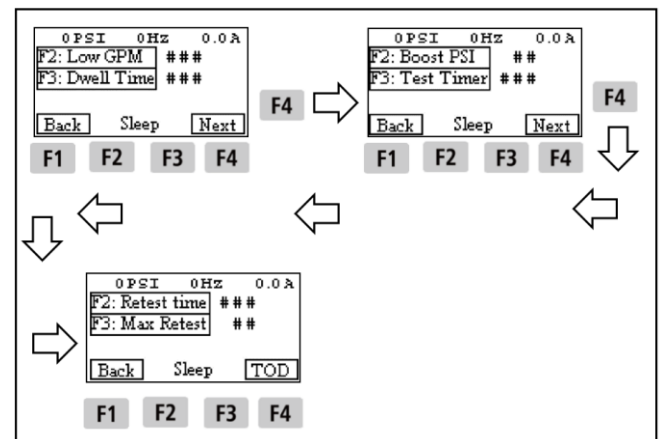

Figure 12-19. Adjusting Sleep Parameters.
- The Low GPM setting is the minimum flow at which the VFD will perform a sleep test. To adjust the Low GPM setting, from the first Sleep configuration settings screen, press the **F2** Low GPM key (see Figure 12-19). The number to the right of F2 Low GPM can be used for the Flow Switch. For a Flow Switch, set the number at 1.
- The Dwell Time is the time allotted at the Low GPM flow before the VFD performs a sleep test (such as 10 seconds). To adjust the Dwell Time setting, from the first Sleep configuration settings screen, press the **F3** Dwell Time key. The number to the right of F3 Dwell Time can be adjusted (see Figure 12-19).
- Press the **F4** Next key to get to the second Sleep configuration settings screen (see Figure 12-19).
plus the Boost Pressure at minimum speed. To adjust the Boost Pressure setting, from the second Sleep Configuration settings screen, press the **F2** Boost PSI key (see Figure 12-19). The number to the right of F2 Boost PSI can be adjusted. The default Boost PSI setting for the CLPRS pump station will be 0. This setting will shut down the pump when flow is below the Flow Switch threshold.
- The Test Timer is not applicable to CLPRS pump stations, and should be set to 1. To adjust the Test Timer setting, from the second Sleep configuration settings screen, press the **F3** Test Timer key. Adjust the number to the right of F3 Test Timer to 1 (see Figure 12-19).
- Press the **F4** Next key to get to the third Sleep configuration settings screen (see Figure 12-19).